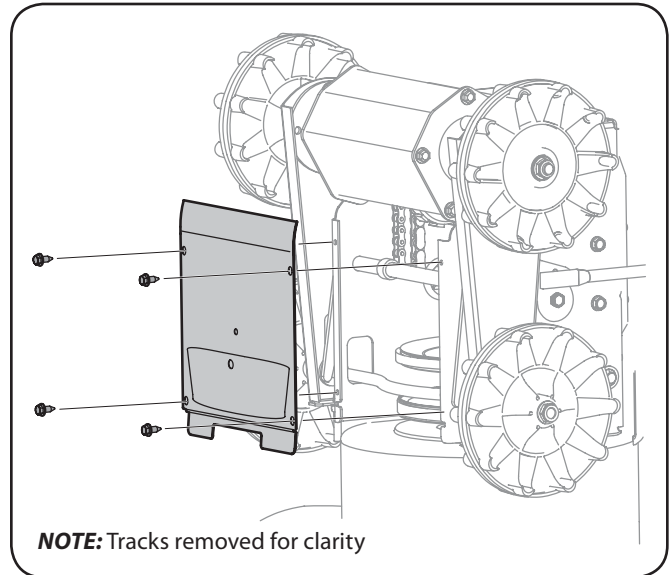

Figure 7-2
4. Remove the frame cover from the underside of the snow thrower by removing the self-tapping screws which secure it. See Fig. 7-2.
- Remove the frame cover from the underside of the snow thrower by removing self-tapping screws which secure it. Ref. Fig. 7-2.